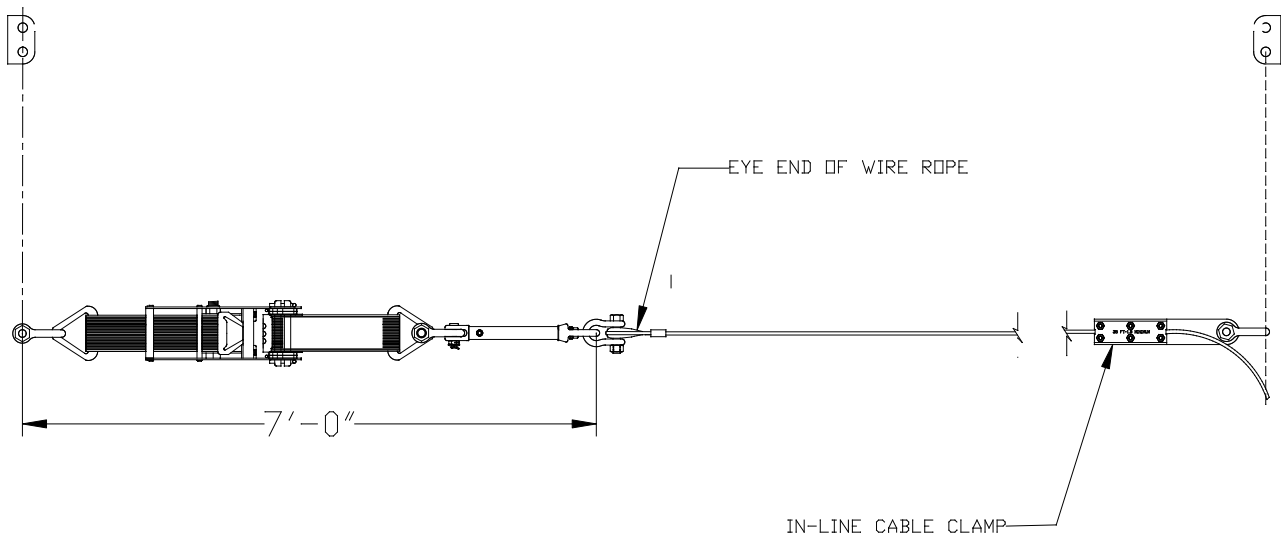

Fig. 3 Skyline™ Horizontal Lifeline Layout
17. Position the eye end of the wire rope so that it is about 7-ft. (see Figure 3) away from the location of one of the location of the HLL attachment point.